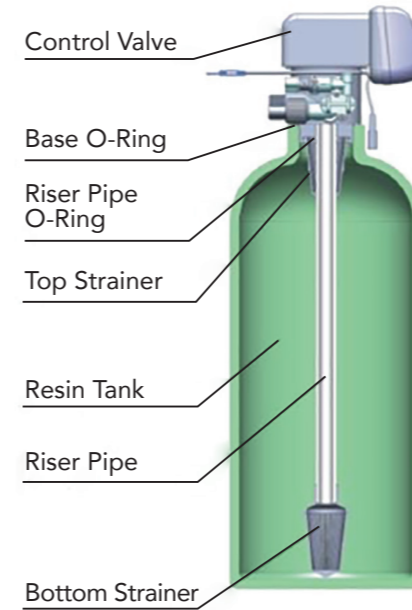

Figure 1 - Cross Section
3. Place pipe with bottom strainer inside FRP vessel, cut off excess pipe such that the height of pipe + bottom strainer is same height as vessel top (when placed inside vessel) Refer Figure 1.